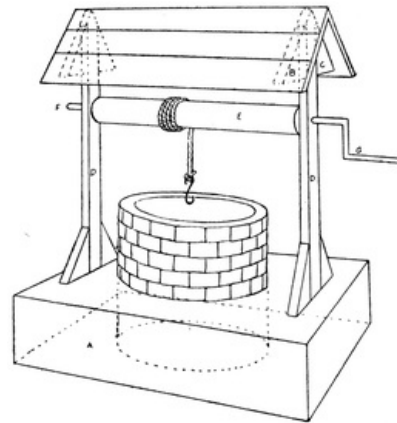

FIG. 319
**A Well** (Fig. 319). The round part of the well is made from a mantle-box or other round box. A is a fairly deep box turned upside down, with a circle cut out into which the mantle-box fits closely. This gives a fair depth. Cover the well with paper coloured to represent bricks; colour the box, A, green. The cardboard roof is glued to posts, D, and to triangular pieces of wood, B and C, glued to each side of D.